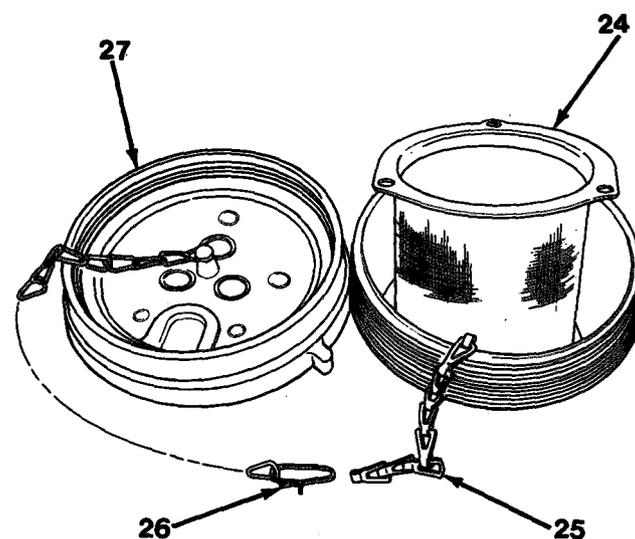

Figure 7-4
2. Remove four machine screws (21), lockwashers (22) and sending unit (23).
3. Unscrew cap (27) and remove fill screen (24, Figure 7-4).
4. Unhook chain (25) at clip (26) and remove cap (27).
1. Hook chain (25) at clip (26, Figure 7-4).
2. Install fill screen (24) and cap (27).